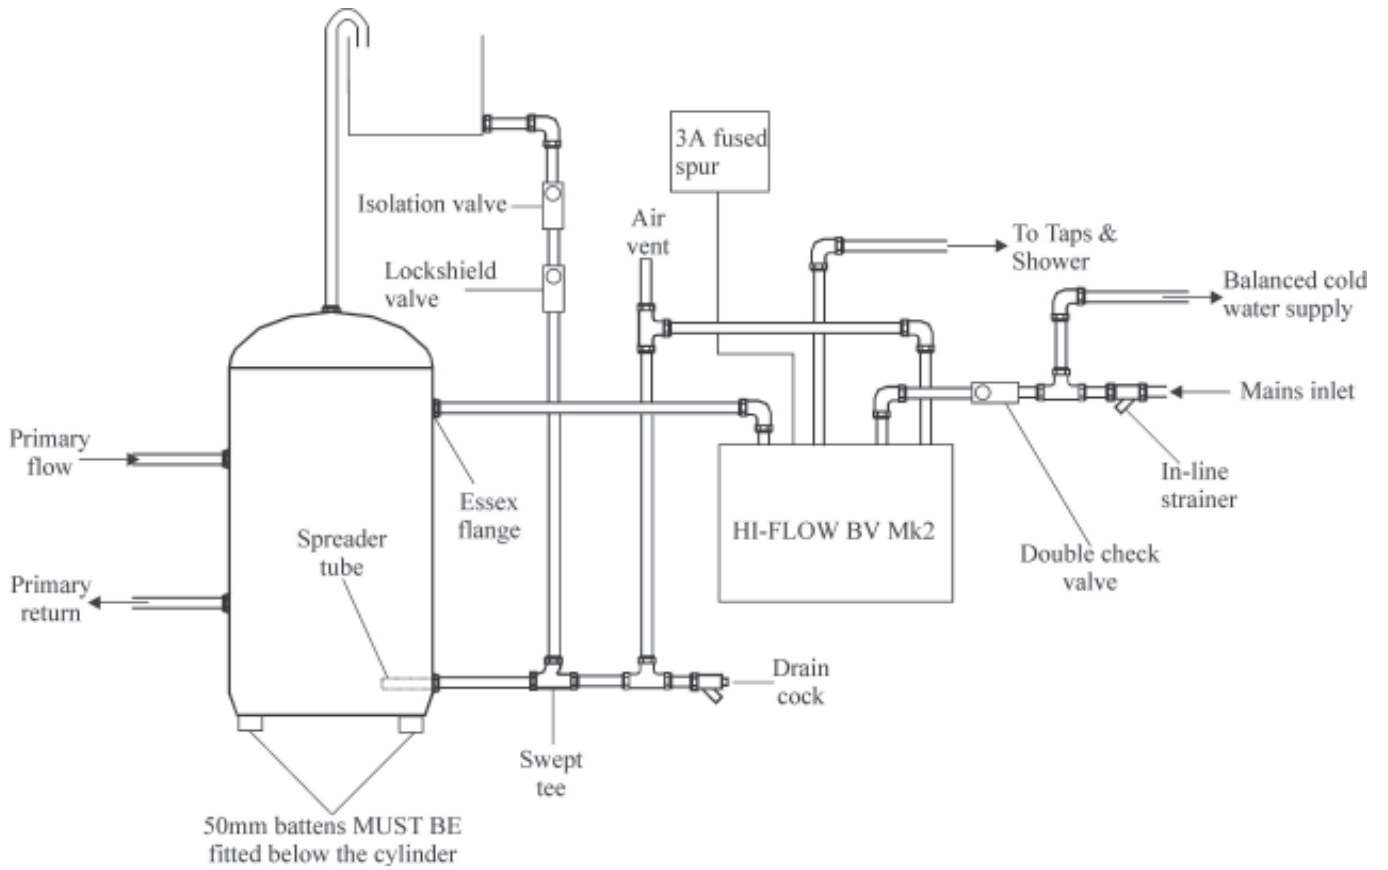

Fig. 2a
- 2.3 **Fitting HIFLOW unit to existing Gravity Feed Cylinder preferred method (Fig. 2a) :**